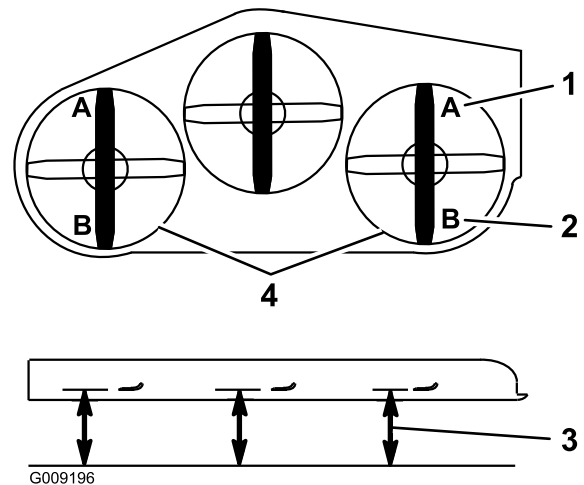

**Figure 87**
5. Push the deck lift pedal all the way forward and the deck will latch at the 14 cm (5 1/2 inch) transport position (Figure 87).